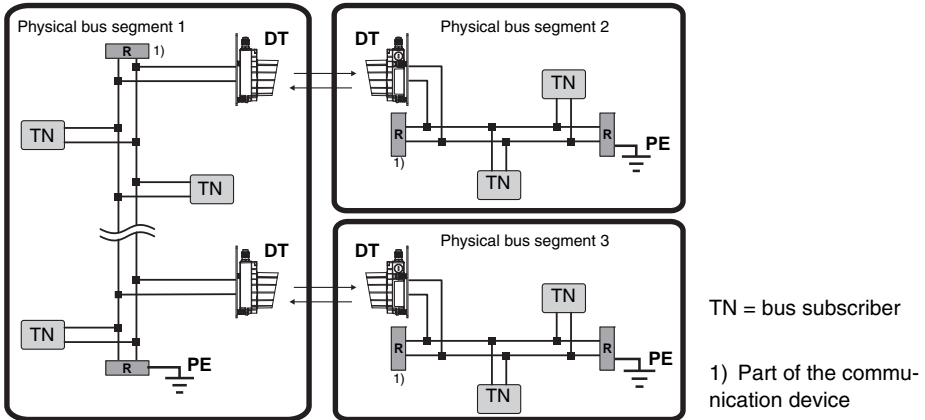

Figure 9.9: DeviceNet / CANopen wiring
- The ends of the bus lines must be terminated between CAN_L and CAN_H for each physical bus segment (see figure 9.9 ).
- The ground reference CAN_GND must only be connected to earth potential (PE) at one place on a physical bus segment (see figure 9.9).